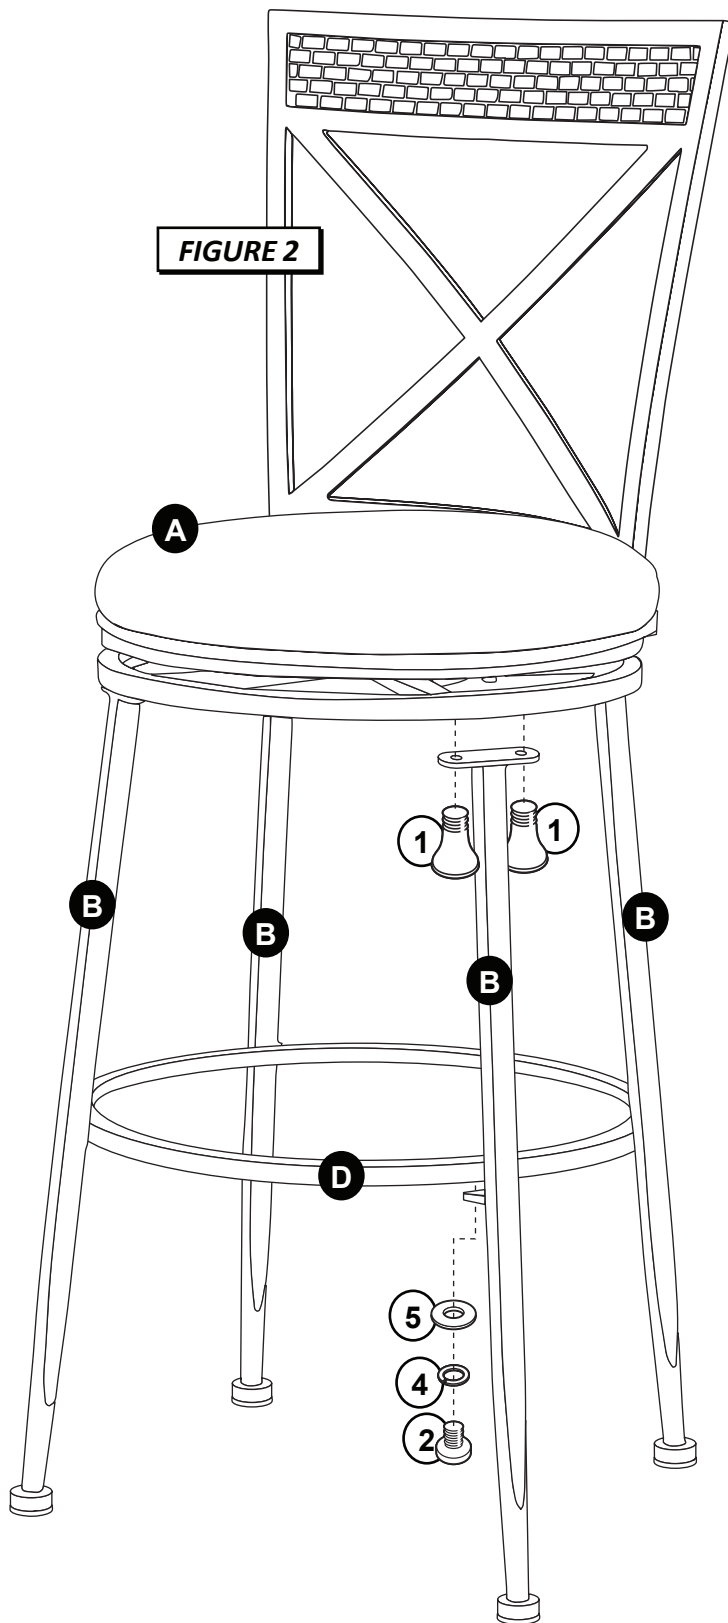

FIGURE 2
STEP 2 - Figure 2
STEP 3 - Figure 2